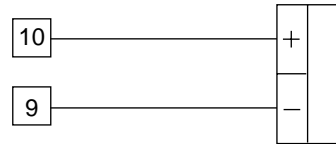

Figure 7. Calibrator Connection
- a) Connect calibrator and instrument as shown in Figure 7.